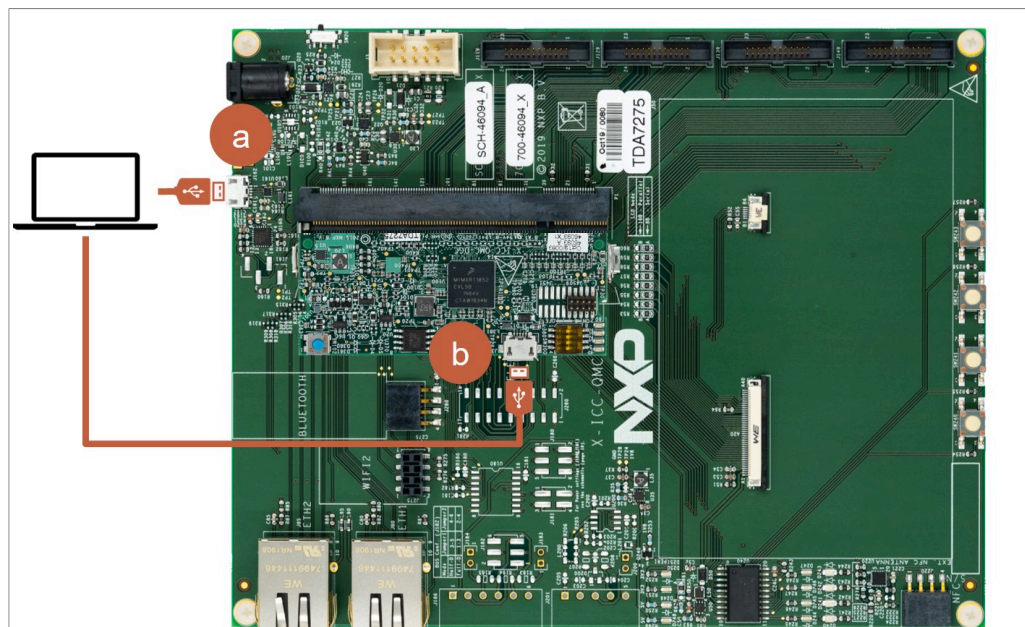

Figure 24. Connect daughter board to the laptop
- 6. Disconnect the LPC-Link2 debugger and connect a USB cable from the computer to the USB connector on the smaller daughter board, as shown in Figure 24:
Write down the VCOM port number as it will be used later (e.g. VCOM14 in Figure 24)